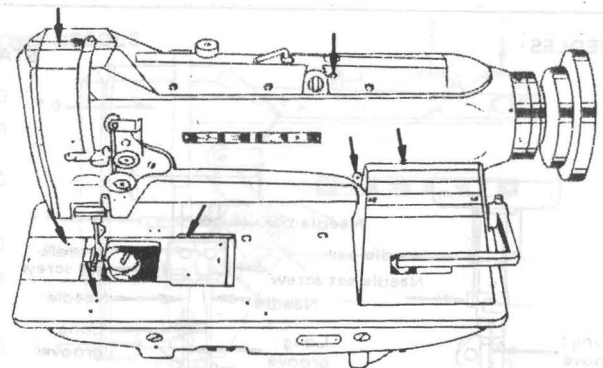

Fig. 2
3. When starting the machine initially and after kept away for a long time without using at all, oil sufficiently to respective necessary parts indicated by arrow before starting operation and pre-running. (Fig. 2, 4 and 5)